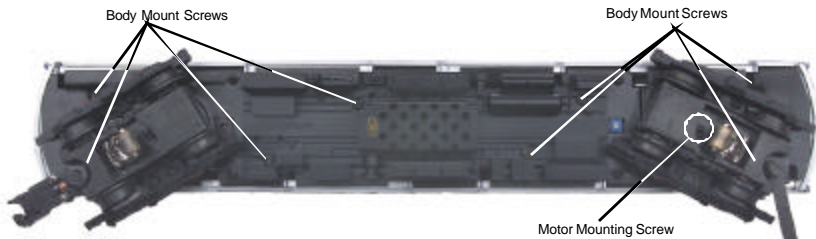

Figure 6
2. Remove the eight Phillips screws from the chassis, as seen in Figure 6, then lift the body away from the chassis. Lift the shell off carefully, because the metal door slide bars just inside the shell may hang on light housings. *Note: the radiator vents are fragile; do not use them to pull the shell and chassis apart.*
3. Remove the truck blocks from the chassis by unscrewing the black Phillips motor mount screw on the bottom of each truck block, as shown in Figure 6.